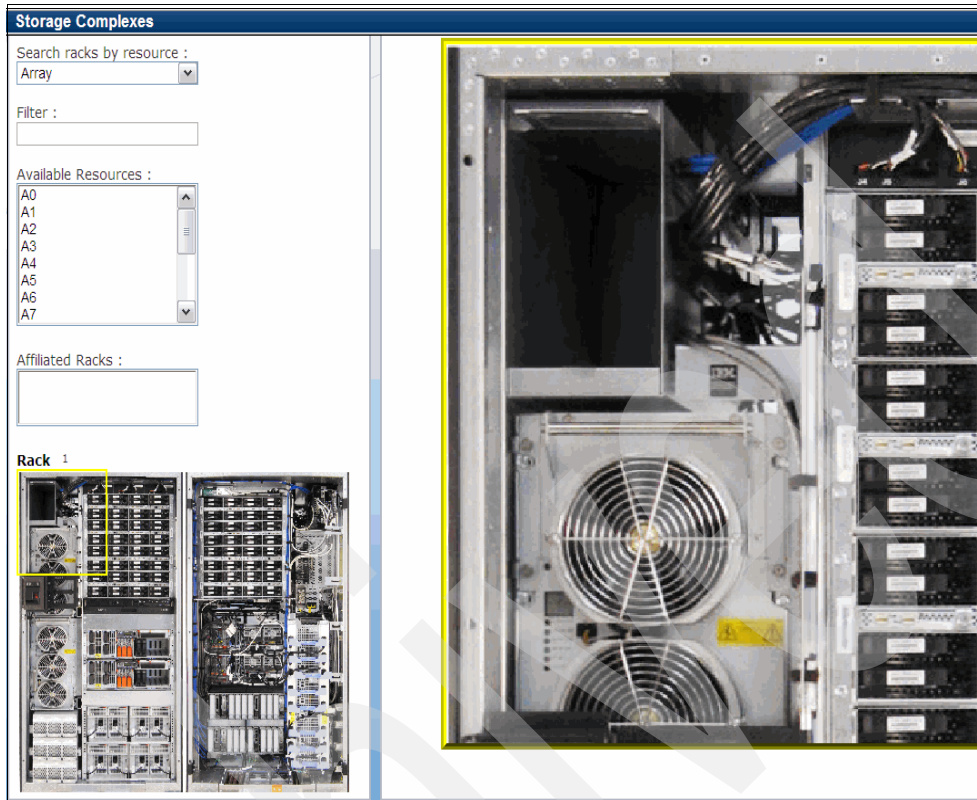

Figure 13-78 Hardware Explorer window
3. Select the **Hardware Explorer** tab to switch to the Hardware Explorer window (see Figure 13-78).